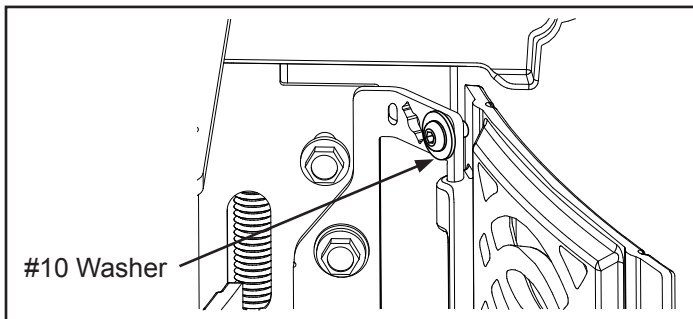

Figure 5.22
**Note:** On models with porcelain finish, there may be some cases where the cast side panels come in contact with the cast wings. There are (4) #10 screws and flat washers located on the hinge plates that can be used for adjustment. The washers can be removed to allow for less travel. Figure 5.22.